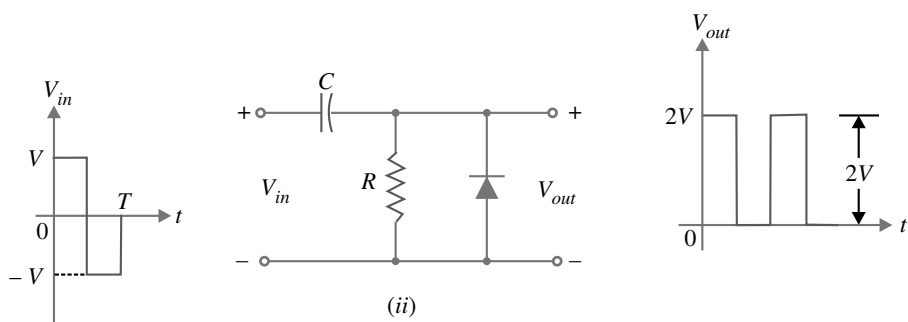

Fig. 16.70
**Example 16.25.** Draw the output voltage waveform for the input shown in Fig. 16.70.
**Solution.** Fig. 16.70 (i) shows the output voltage waveform for the input wave to the clamping circuit. Note that it is a *negative clammer* and pushes the input wave downwards so that positive peaks fall on the zero level. Fig. 16.70 (ii) shows the output voltage waveform for the input wave to a *positive clammer*. The clamper pushes the input wave upwards so that the negative peaks fall on the zero level.